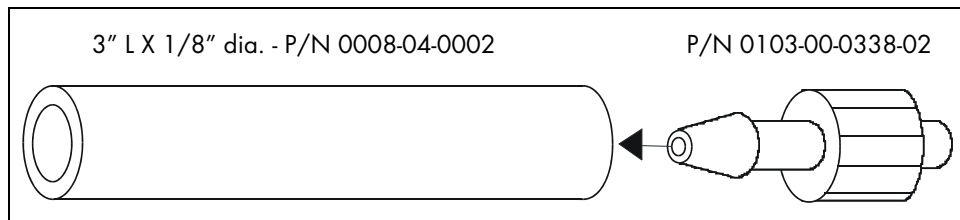

FIGURE 4-1 Atmospheric Transducer Tubing Adapter
- Atmospheric transducer tubing adapter (see FIGURE 4-1)